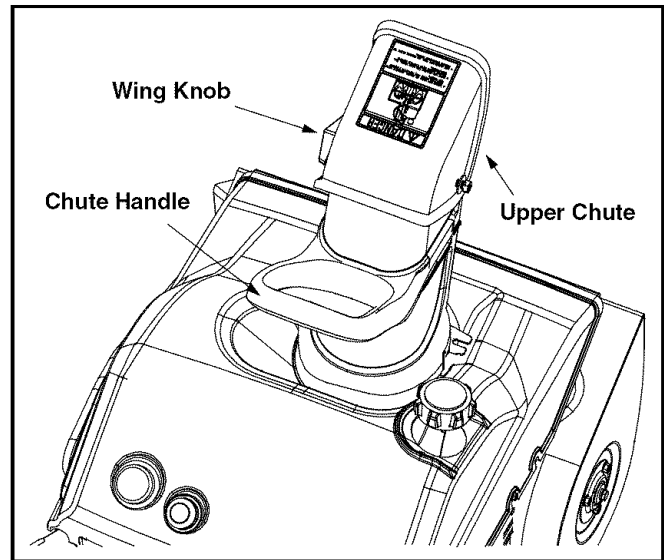

Figure 2
- Rotate the discharge chute to the left or right using the chute handle. See Figure 2.
- Engage the auger by squeezing the control handle against the upper handle. See Figure 2.